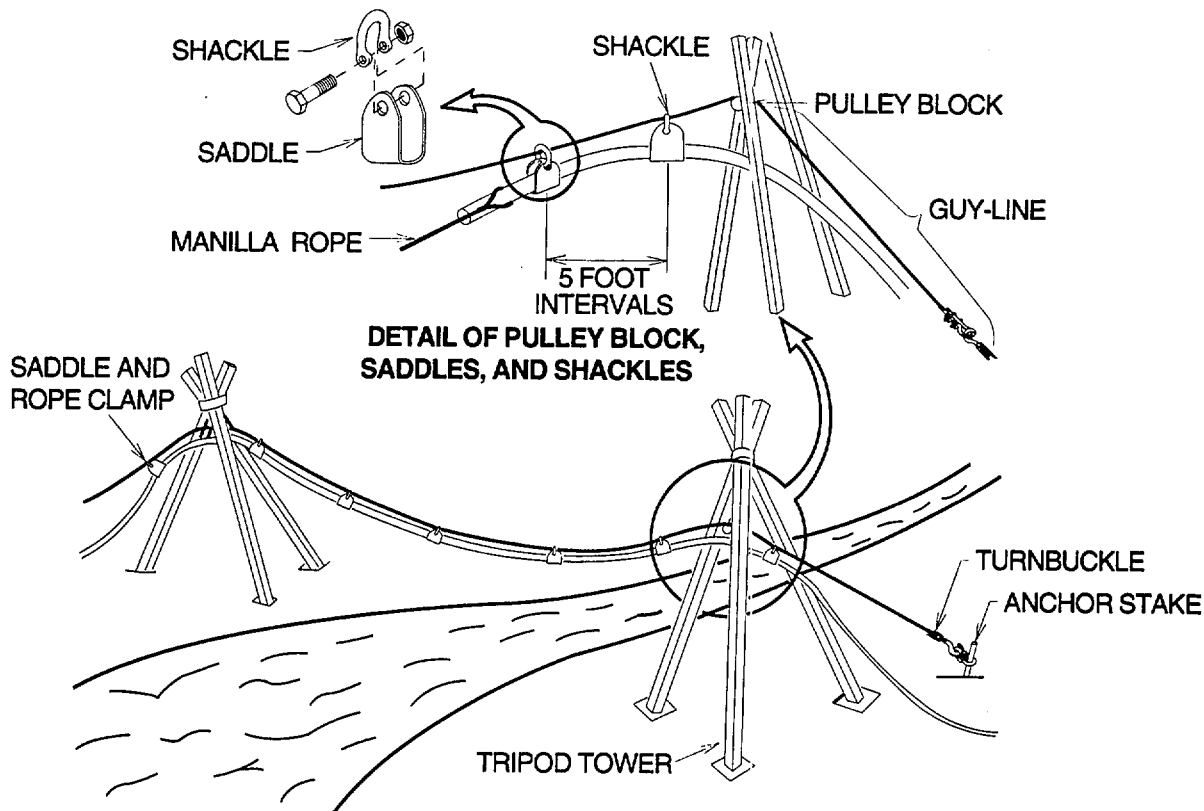

Figure 4-14. Suspension Kit Installation
Install suspension sets at road crossings, small streams, and other areas where a nestable culvert may not be used. Crossings must provide clearance from flood stages. Each hoseline suspension kit provides adequate material for one 200 foot wide crossing or two shorter crossings. Materials for the construction of towers (timber, bolts, nails, etc.) are not included in the kit and must be obtained locally. (See figure 4-14.)
- a. Suspension Towers. When constructing suspension towers for spans up to 75 feet, short towers constructed of 4x4 timber or similar material can be utilized as long as adequate clearance is ensured. For spans over 75 feet, towers must be constructed of 6x8 timber or similar material to provide adequate clearance and strength. Naturally occurring trees along the hoseline route may be used as towers provided there is adequate clearance. Trees must be a minimum of 10 inches in diameter, sound, and well rooted. All suspension towers shall be anchored by guy-lines to anchor stakes provided in the suspension kit. When constructing tripod suspension towers, (see figure 4-14), position one leg of each tower toward the other with the remaining two legs angled backward and toward either side of the first leg. This will provide maximum strength and stability.
- (1) Drive anchor stake into the ground approximately 15 feet from each tower in line with both towers. Stake should protrude from ground approximately 6 inches. Use the driving head to drive stakes.
- (2) Hang a pulley block from each tower and thread wire rope through pulley on near side.
- (3) Pull wire rope across stream or obstruction.
- (11) Place shackle on wire rope, lift hose end, wrap saddle around hose, and attach to shackle. Tie manila rope to leading end of hoseline (figure 4-14).
- (12) As saddles are applied and secured, use the manila rope to pull hoseline across the stream, gap, or obstruction. Saddles will travel along wire rope, providing support for hoseline.
- (13) When hoseline is in place, use three or more clamps (depending upon need) to secure shackles to wire rope to prevent an accumulation of slack in center of span.